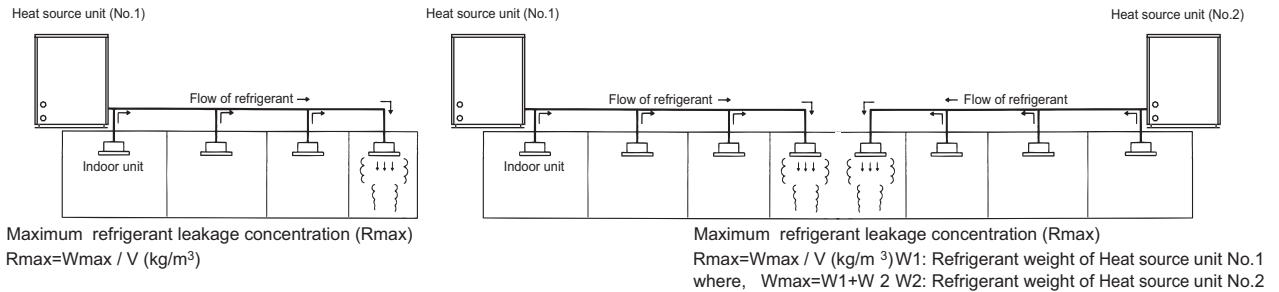

Fig. 6-1 The maximum refrigerant leakage concentration
The maximum refrigerant leakage concentration (Rmax) is defined as the result of the possible maximum refrigerant weight (Wmax) leaked into a room divided by its room capacity (V). It is referable to Fig. 6-1. The refrigerant of Heat source unit here includes its original charge and additional charge at the site.